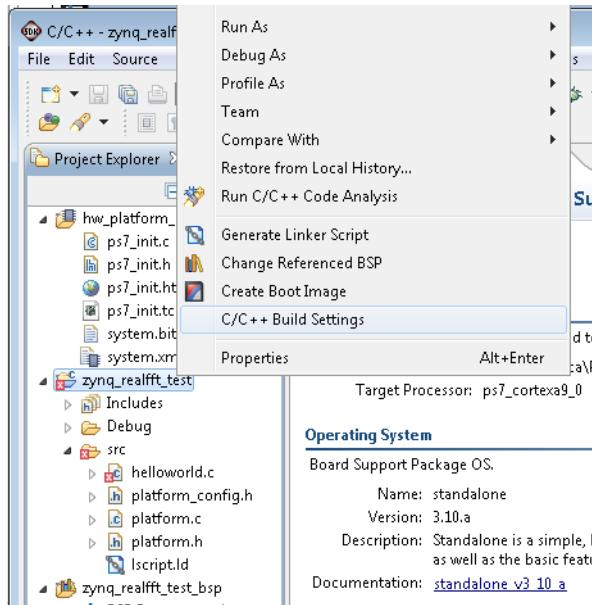

Figure 10-45: Specify C/C++ Build Settings
- a. Right-click the `zynq_realfft_test` project in the Project Explorer pane and select **C/C+ Build Settings** (Figure 10-45).